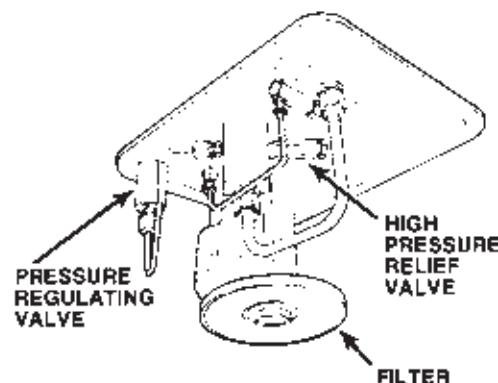

FIGURE 2
1. Remove the ten screws fastening the motor and pump assembly to the reservoir. **IMPORTANT:** Do not damage the gasket or bump the filter or pressure regulating valves when lifting the pump and motor off the reservoir. See Figure 2.